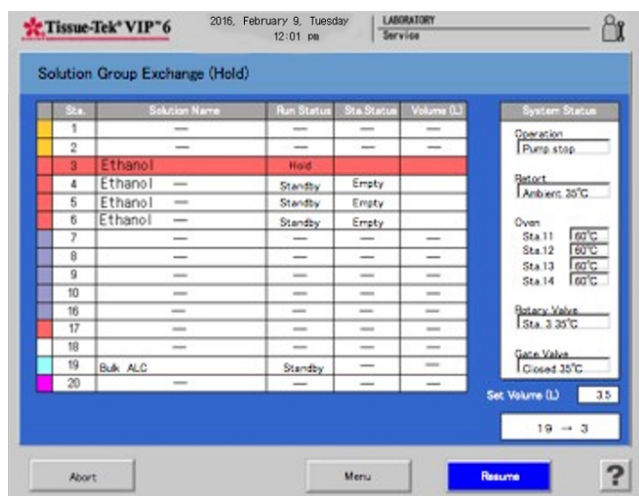

Figure 3-AAAA
- The Exchange Hold (Solution Group Exchange) screen is displayed (Figure 3-AAAA).